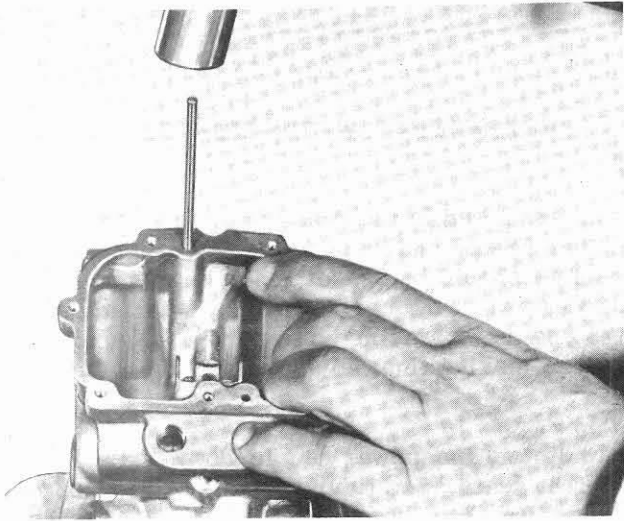

Figure 2-10. Driving Out Pump-Discharge Valve
b. To remove the pump discharge jet, drive thru from below with a 5/32-inch diameter rod approximately 4-inches long. (See figure 2-10.)